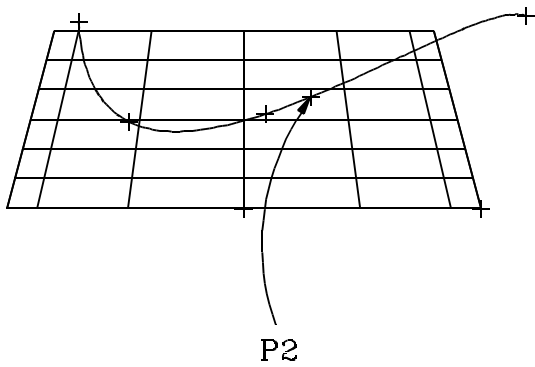

Figure 10:
19. In the front view, click on point P2 (the green point), as shown on Figure 10.